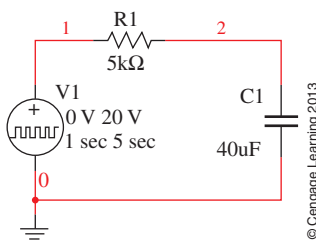

FIGURE 11-68
48. Using Multisim, construct Figure 11-68 on your screen. (The source is found in the Sources Group. Click *Place/Component* to find it.) Repeat Example 11-17 and plot capacitor voltage and current. You should get the curves of Figure 11-49(b) as your solution.